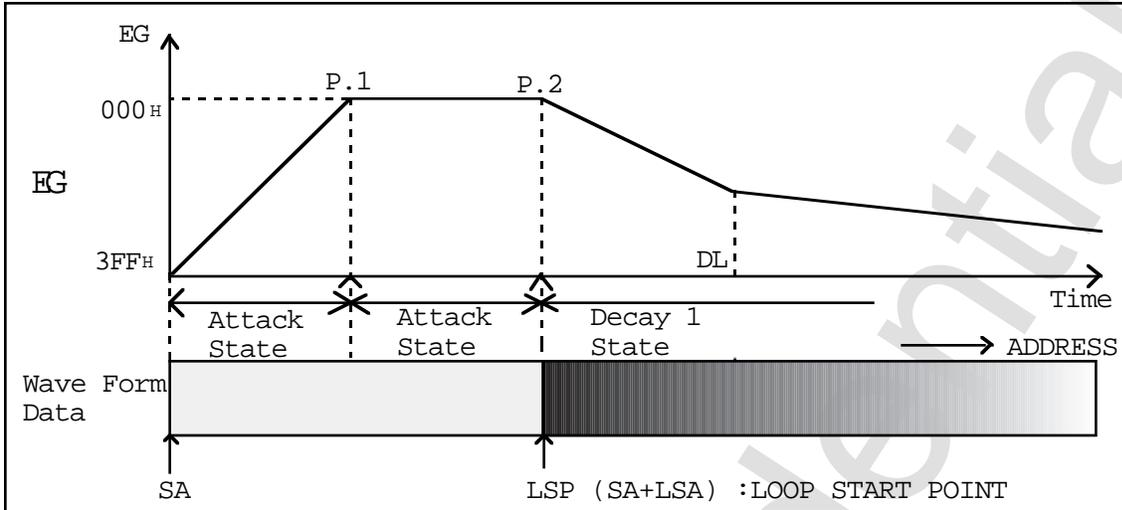

Figure 4.15 Transition (1) from the Attack State to Decay 1
- 1) When, in terms of time, EG reaches "000H" in the attack state faster than when the wave form read address reaches the loop start point ("SA"+"LSA") (Figure 4.15). In this case, EG will reach the MAX level first (P.1). However, since moving to the next segment is not possible (decay 1 state) until the wave form read address reaches the loop start point, EG is maintained at MAX level. Next, when the wave form read address reaches the loop start point (P.2) EG will move to the decay 1 state.